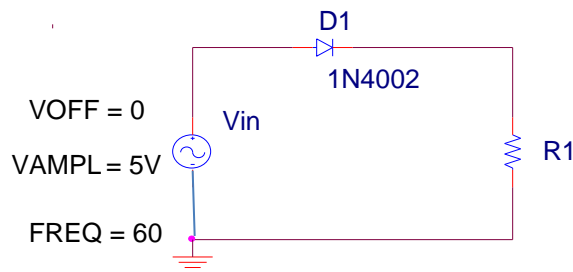

Figure 2: A half-wave rectifier
3. Figure 2 shows a half-wave rectifier. Build a half-wave rectifier in LTspice using the 1N4002 diode.